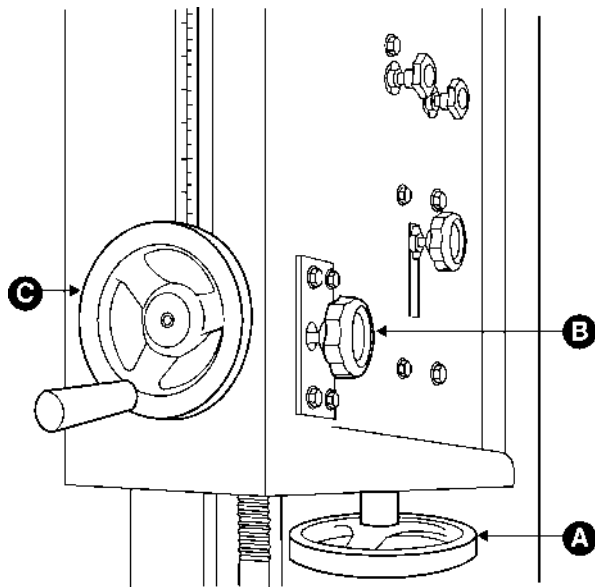

FIGURE 7
2. Loosen blade tension by turning blade tension hand wheel (A), Figure 7, counter-clockwise until it stops.
2. Turn blade tension handwheel (A-Figure 7) clockwise to tension blade and counter-clockwise to loosen the tension.
2. Loosen lock knob (B), Figure 7, and raise or lower upper blade guide assembly by turning the handwheel (C).
4. Tighten lock knob (B).